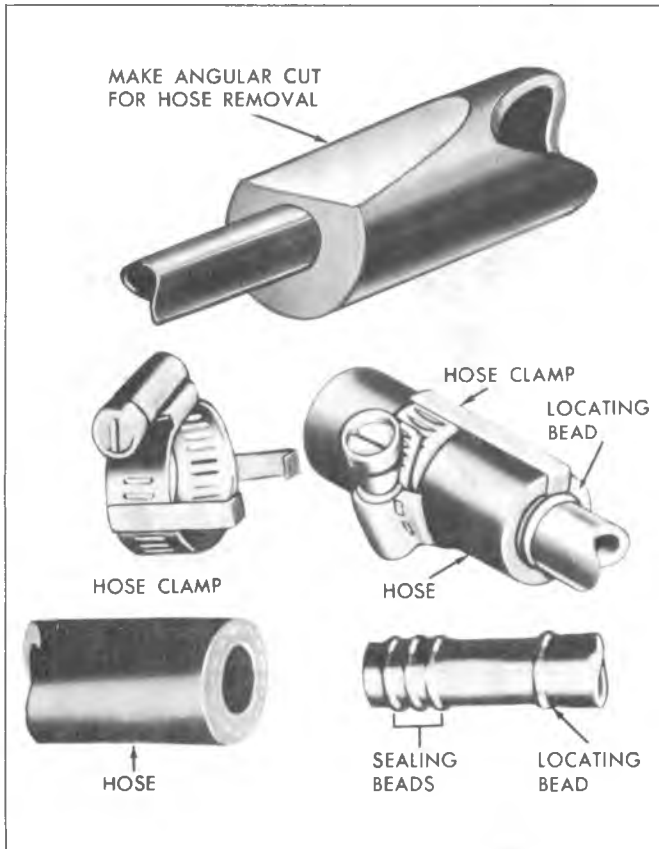

Fig. 29—Hose Clamp Connections
1. Carefully, with a sharp knife, make an angle cut in the hose as shown in Figure 29. This should loosen the hose so that it may be worked off the fitting.